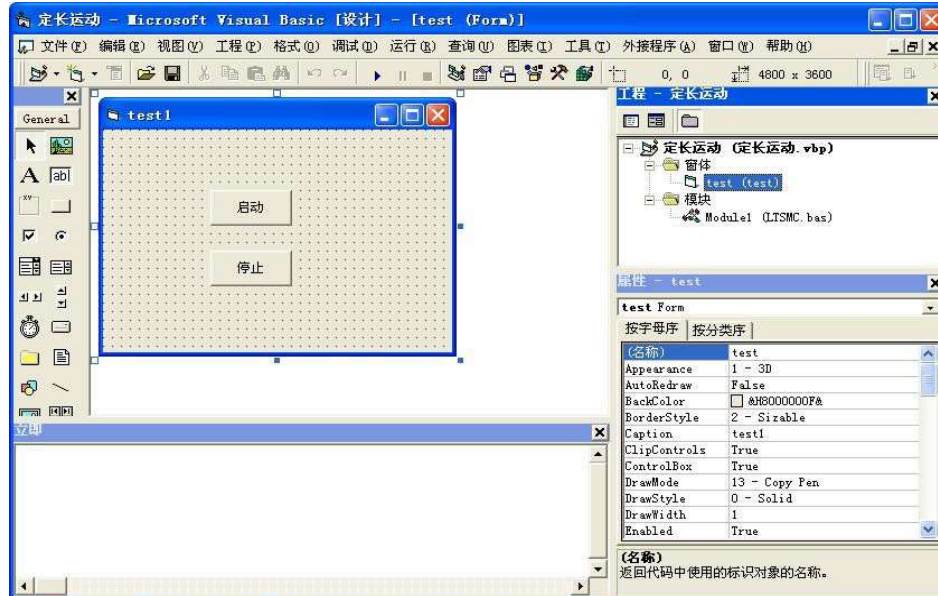

Fig. 1.7 Add header file
- 5) Select “Select Project → Add module → Existing, find” in the menu, find the file LTSMC.bas in the directory of test1 and add it in the project, as shown in Fig. 1.7.